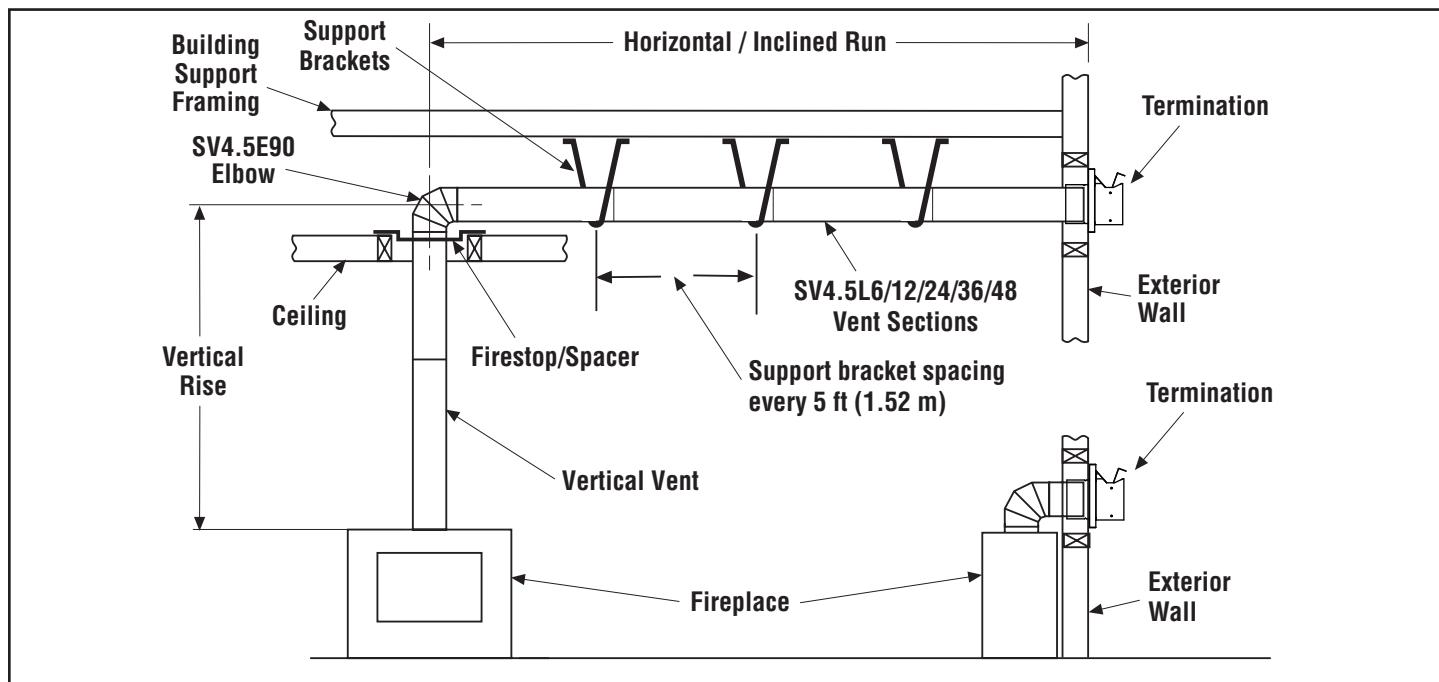

Figure 8 - Typical Horizontal Vent Installation
2. **Support fireplace vent outlet with field provided support straps (Plumber's tape)**—Attach the straps to the vent pipe and secure to the framing members with nails or screws (*Figure 8*).
- 1. Continue installation of horizontal/inclined sections—** Continue with the installation of the straight vent sections in horizontal/inclined run. Install support straps every 5 ft. (1.52 m) along horizontal/inclined vent runs using conventional plumber's tape (**Figure 8, Page 14**). Maintain the horizontal/inclined run in a straight (no dips), slightly elevated plane. The recommended incline is approximately 1/4" per 1 ft (20 mm per 1 m) horizontal, in a direction away from the fireplace. Smaller rise per foot run ratios are acceptable all the way to at or near level. Use a carpenter's level to measure from a constant surface and adjust the support straps as necessary. Maintain the required clearances to combustibles (**Page 9**).